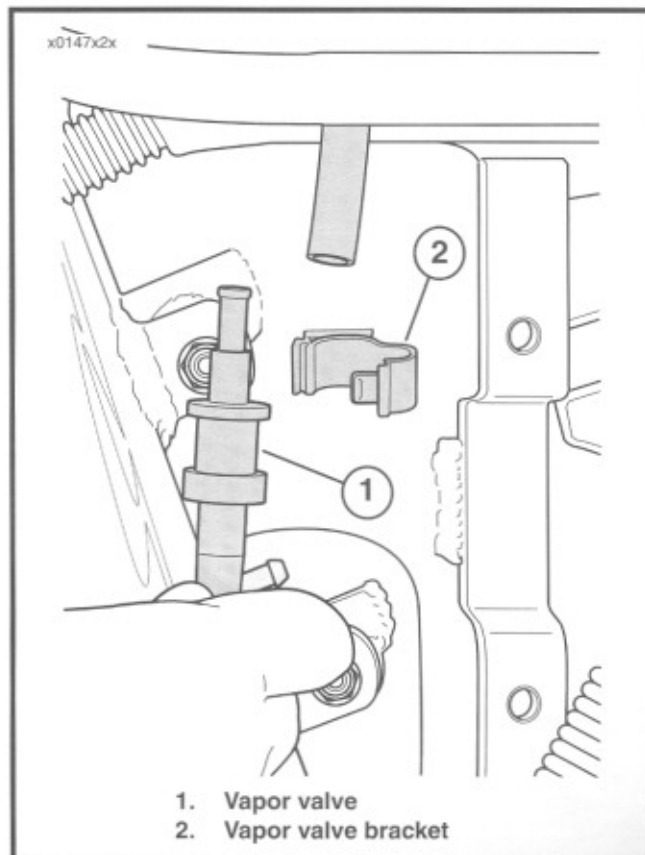

Figure 4-13. Vapor Valve Mounting
See Figure 4-13. Mount the vapor valve (1) in an upright position with the longer fitting positioned at the top or excessive fuel vapor pressure may build up within the fuel tank.